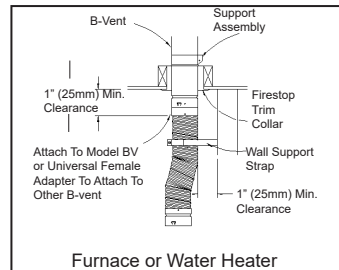

Fig. 19
4) DuraConnect II Flexible Connector is Listed by Underwriters Laboratories (UL) for 1" (25mm) airspace clearance-to-combustibles in an unenclosed installation. **THIS PRODUCT SHOULD NOT BE FULLY ENCLOSED OR PASS THROUGH A COMBUSTIBLE AREA SUCH AS A CEILING, WALL OR ROOF JOIST.**
5) Use DuraConnect II (combination) Wall/Ceiling Support Spacers as necessary to assure correct clearances are maintained (see Fig. 19).
2) Select a length or lengths of flexible connector sufficient to extend from the Type B Gas Vent (which should be protruding into the appliance room) to the appliance to be connected. If the inlet of the existing Type B Gas Vent system is not compatible with the male end of the flexible connector, use a Model BV Universal Female B-Vent Adapter or a Universal Female Flexible Connector which are UL Listed and designed to adapt to most manufacturer's Type B Gas Vent (See Section 3). Insert the outlet (male) end of the Flexible Adapter into the inlet of the gas vent until it fully engages. Use #8x1/4" sheet metal screws to secure in place. (See Figure 19).